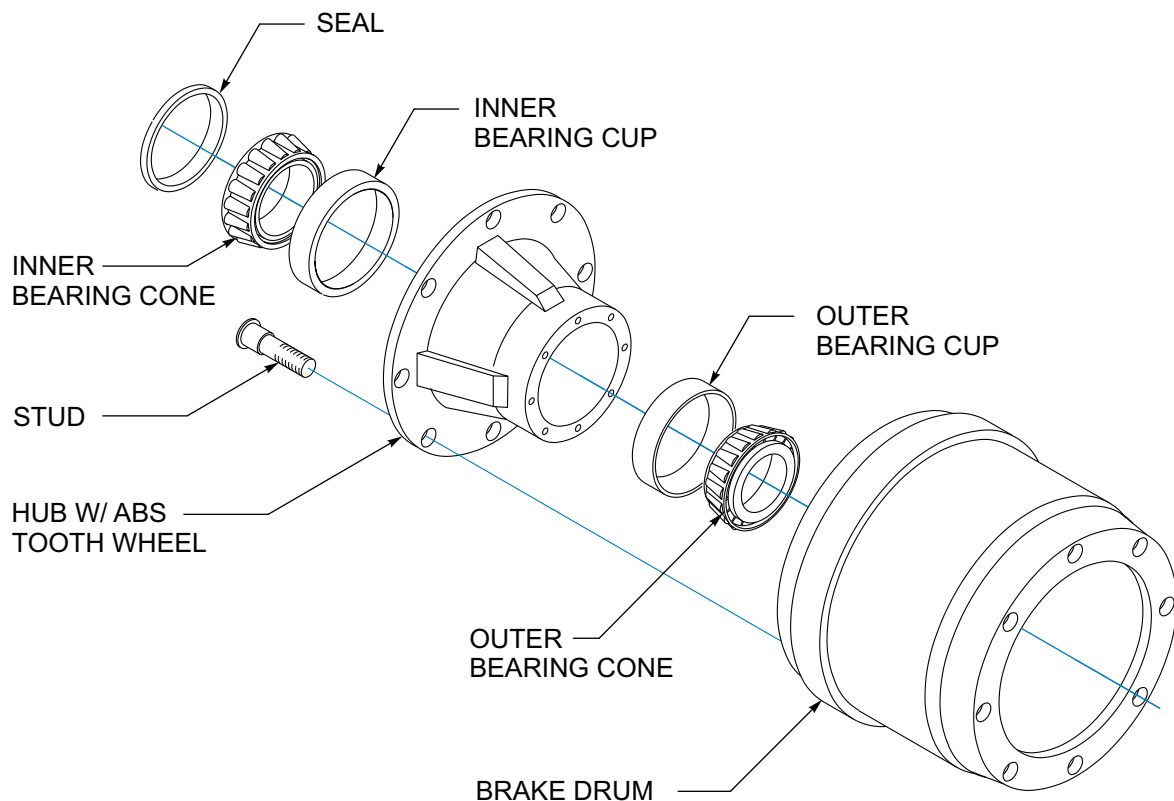

Figure 4-16: Outboard Mount Hub and Drum
3. Remove drum assembly (*See Figure 4-16.*)
(See Figure 4-16.)
- i. Place the drum over the hub and brake shoes being careful not to damage the threads on the studs (See Figure 4-16.) Make sure the drum seats flat against the hub flange and mates properly with the hub pilot. There should be no interference between the brake drum pilot chamfer and the corner radius on the hub. If interference exists, the hub will not be able to function properly.
- k. If studs are marked "R" or "L", right hand (R) hubs should be installed on the curbside of the vehicle, left hand (L) hubs should be installed on the driver side.